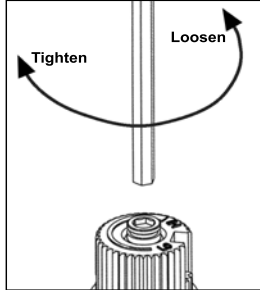

Figure 14: Removing valve screw.
(see Figure 14), rotate it counter-clockwise until it is free and extract it.
- e) Using the Allen wrench as shown in Figure 14, rotate the screw clockwise until a torque of 9 inch lbs.